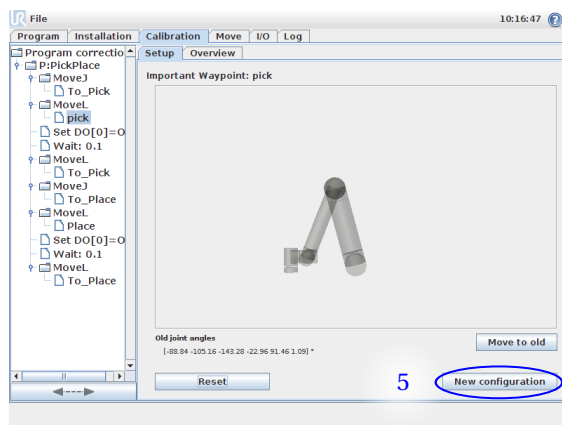

Figure 2.6: Select "New configuration" to redefine the configuration for this waypoint.
- (5) Select "New configuration" to redefine the configuration for the selected waypoint as seen in figure 2.6.